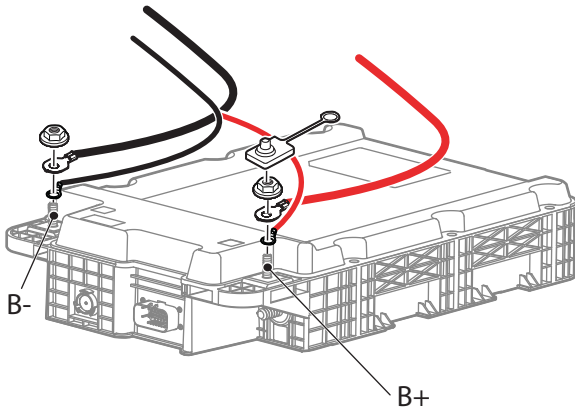

Figure 2 Disconnect Battery Cable
1. Use an insulated wrench to disconnect the negative (-) battery cable from the battery (Ref. Figure 2).